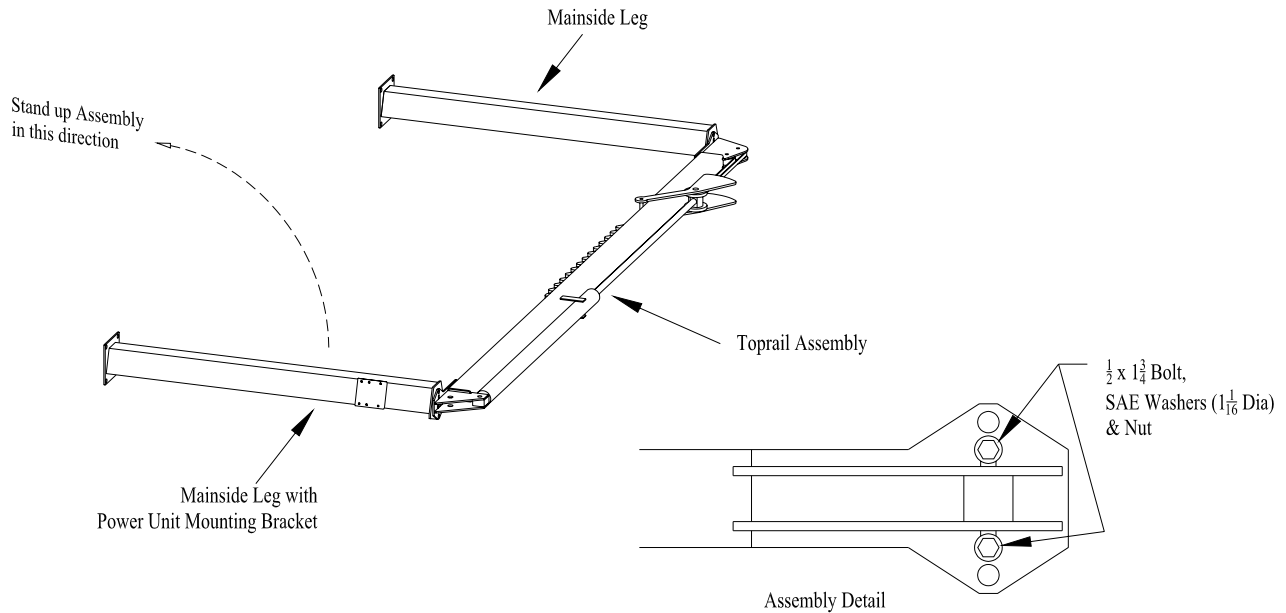

Figure 3
9. Locate the toprail **with additional mounting tab** located at the end of the toprail. Position this toprail and mainside legs for the **left** hand lift as shown in Figure 3. The cylinder is positioned with its ear end at the front of the lift. The toprail should be resting on blocks to assist in positioning the parts. The Power Unit leg has a formed bracket on one side for mounting the power unit. This leg should be located on the rear of the lift. Bolt the toprail to the mainside legs using the  $\frac{1}{2}$  x 1-3/4 bolts, washers, and nuts provided. See Figure 3.
35. Locate the toprail **without** the additional mounting tabs. Position this toprail and mainside legs for the **right** hand lift as shown in Figure 3. The cylinder is positioned with its ear end at the rear of the lift. The toprail should be resting on blocks to assist in positioning the parts. The Power Unit leg has a formed bracket on one side for mounting the power unit. This leg should be located on the rear of the lift. Bolt the top rail to the mainside legs using the ½ x 1-3/4 bolts, washers, and nuts provided.